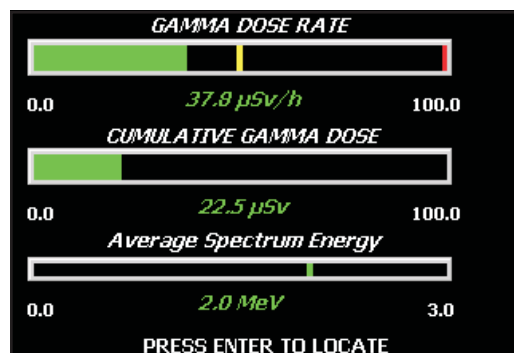

Figure 14 Ebar Dose Display
- Ebar – Displays the Gamma Dose Rate, the Cumulative Gamma Dose and the Average Spectrum Energy as bargraphs (Figure 14).